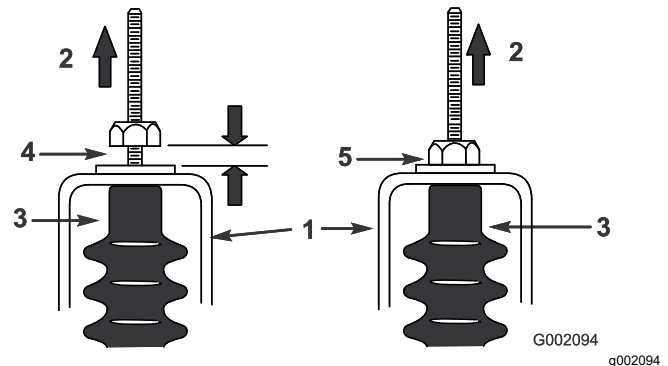

Figure 59
- Pull up on each shift cable and ensure that there is a 0.76 to 1.52 mm (0.03 to 0.06 inch) between the nut/washer and the neutral bracket (Figure 59).